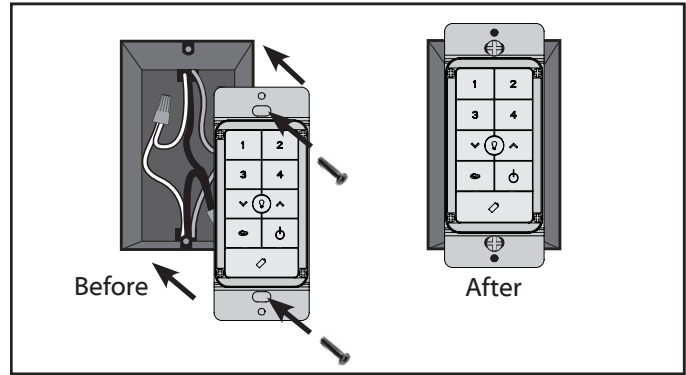

Figure 19
5. Insert the wall control into the outlet box and secure the two screws using a Phillips head screwdriver. Figure 19.